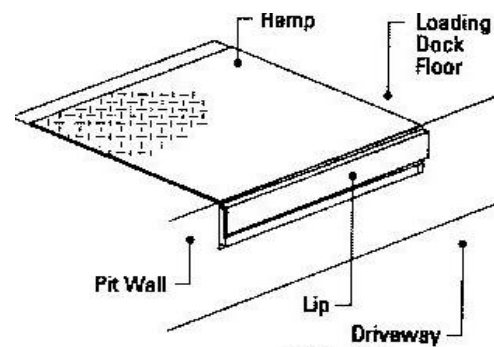

Fig. 28
- ? A recessed type, installed in a pit formed in the loading platform (Fig. 28).